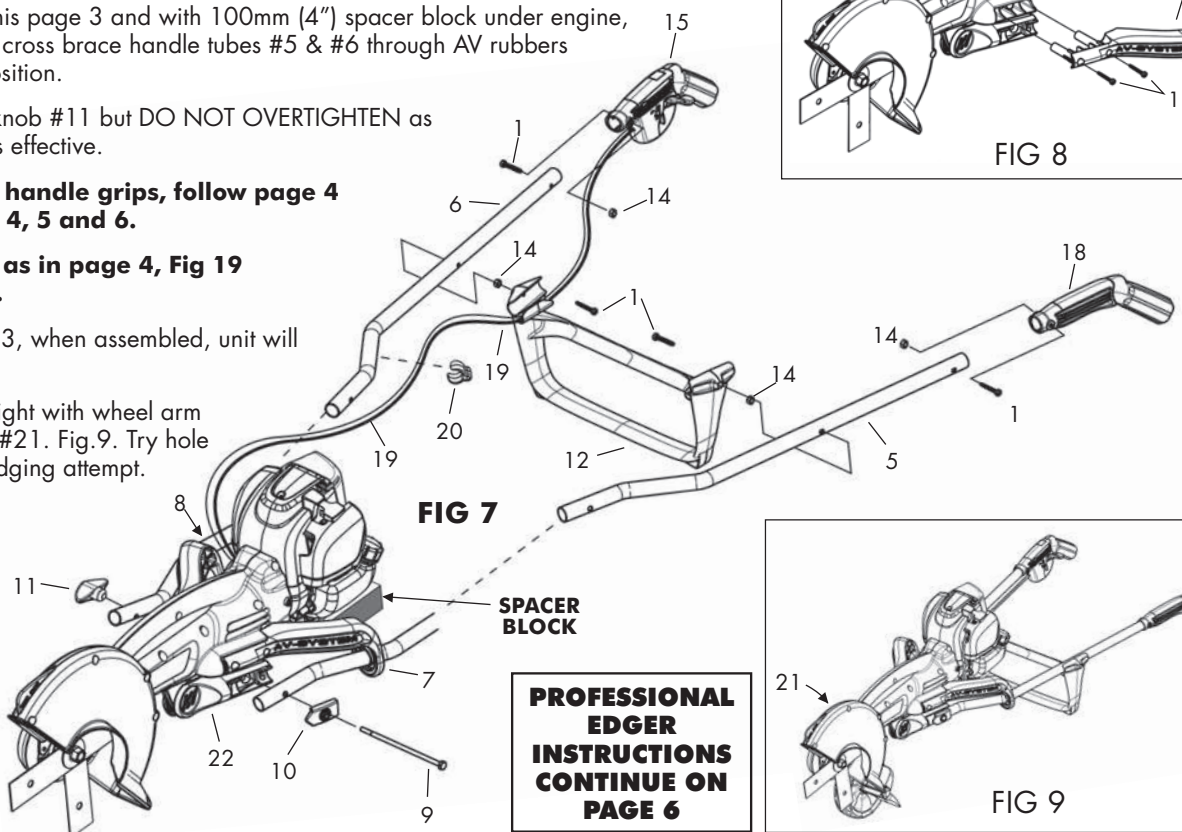

FIG 7
4. As in Fig.7 on this page 3 and with 100mm (4") spacer block under engine, slide assembled cross brace handle tubes #5 & #6 through AV rubbers #7 & #8 into position.
- Place lawn edger or tiller body on bench or floor **with approximately 75mm-100mm (3"-4") spacer under engine**. Fit handle tubes assembled with cross brace #7 to edger or tiller body as shown with bolt #1 and tighten large plastic wing nut #6. Fig 11. For professionals, firstly put front ends of tubes through AV rubbers #7 & #8 in Fig.7 on page 3.